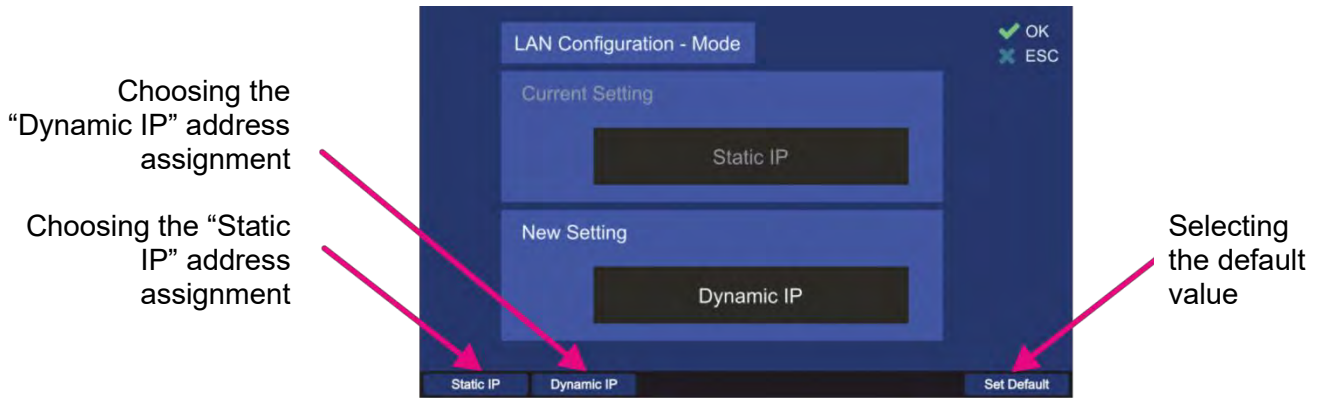

Figure 114. Changing the mode of the IP address assignment
- IP address assignment can be changed directly using the hotkeys “Static IP” and “Dynamic IP” (positions 1 and 2, s. Figure 113), so that the value of this setting is changed without opening the dialog, or it can be set over the corresponding dialog after pressing the hotkey “Edit Value” (s. Figure 113, position 3) while this menu point is marked, the following dialog opens (s. Figure 114).
- Choose the new setting using one of the hotkeys (s. Figure 114), which will then appear in the “New Setting” field.